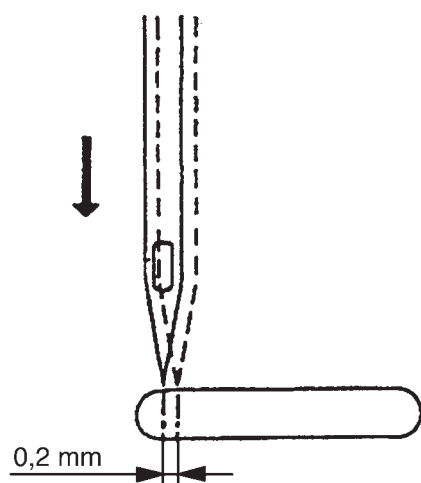

Fig. 56
- Rotate the handwheel until the needle moves downward on the left side and is at a position of roughly 1 mm above the needle plate (fig. 56).